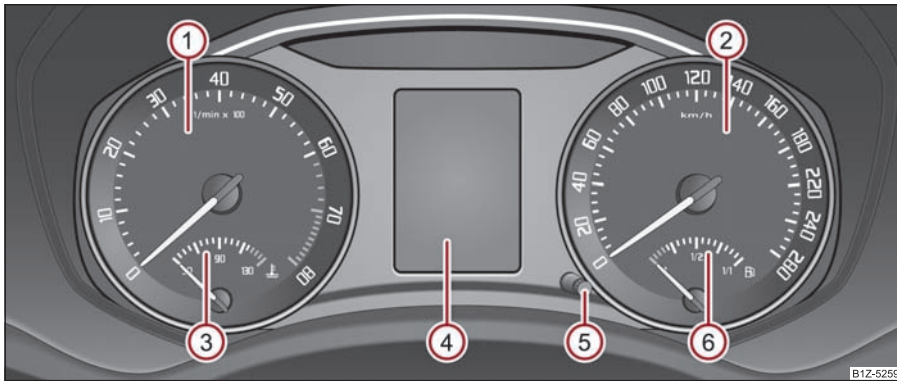

Fig. 15 Instrument cluster
The red zone in the revolutions counter (① ⇒ fig. 15) indicates the maximum permissible engine speed for all gears for an engine which has been run in and operating at a normal temperature. Before reaching the red zone of the rev counter scale, shift up into the next higher gear. The engine control unit restricts the engine speed to a steady limit value.
The coolant temperature gauge ③ ⇒ page 15, fig. 15 operates only when the ignition is switched on.
The fuel gauge ⑥ ⇒ page 15, fig. 15 only works when the ignition is switched on.
Hold the reset button ⑤ ⇒ page 15, fig. 15 pressed for approx. 1 second. The trip counter is reset to zero.
This can be reset as follows: Press the button  ⇒ page 15, fig. 15 and keep it pressed down, start the ignition, release the button and turn it to the left or right.
You can set the time with the rotary knob (5) ⇒ page 15, fig. 15.